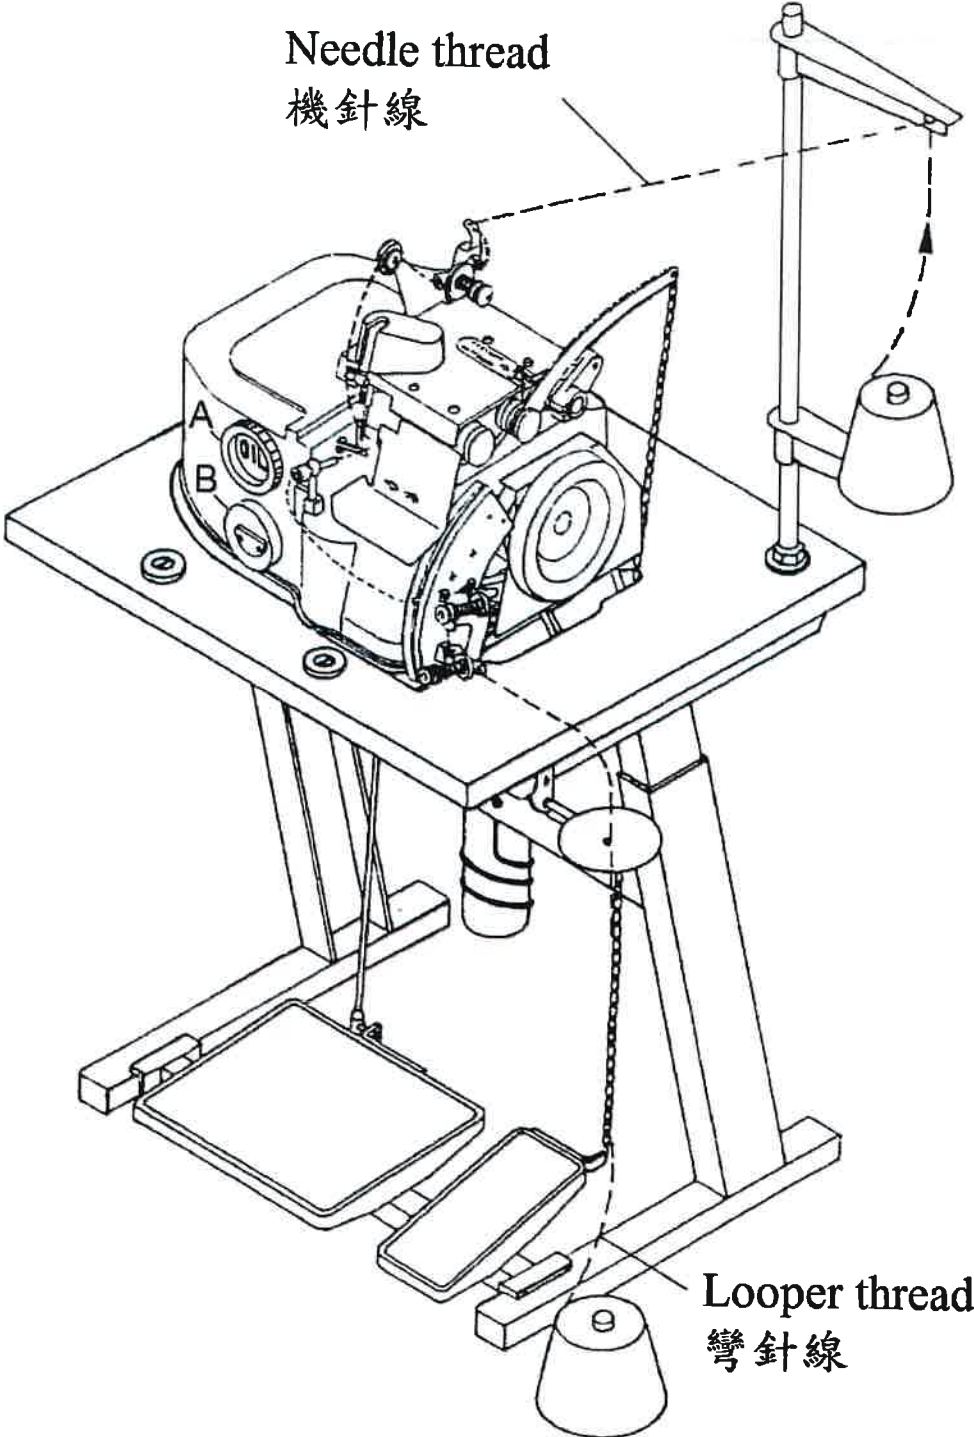

Fig. 1-1
Assemble stand, table and motor as illustration (Fig. 1-1).
Drop oil at (A, Fig. 1-1). The oil level is checked from gauge (B).